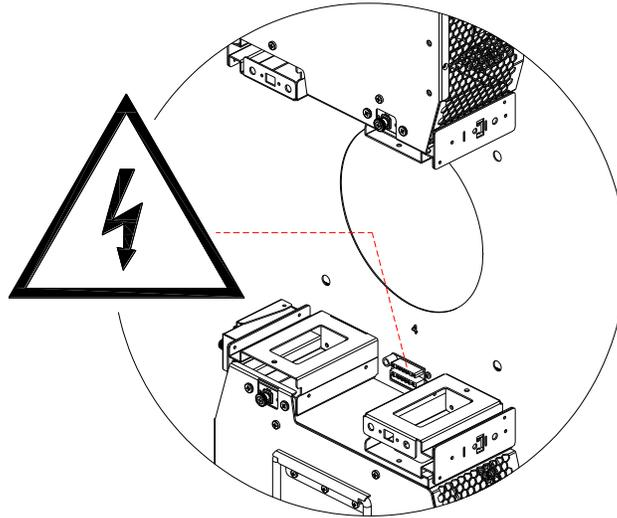

Figure 120. Shock Attention
- Push the new control box in and tighten the Thumb screw to fix the control box. And reconnect all the sockets. (Figure 120)